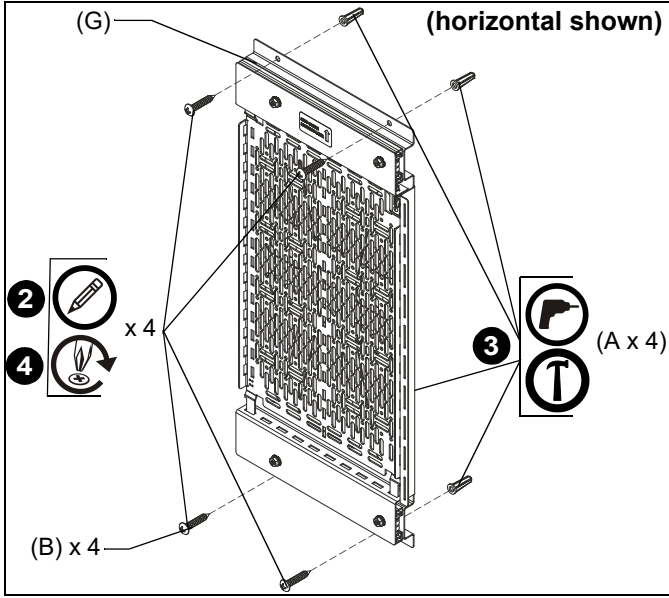

Figure 3
2. Using the CSSLP15X10 (G) as a template, mark the locations of four mounting holes. (See Figure 3)
3. Drill four 1/4" pilot holes and insert drywall anchors (A) at markings. (See Figure 3)
4. Fasten storage panel (G) to wall using four #10 x 1" Phillips pan wood screws (B). (See Figure 3)